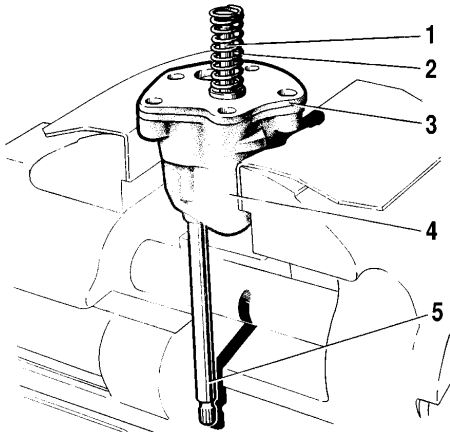

Fig.2-69. Dismantling the oil pump:
- remove cover 3 (Fig.2-69) and withdraw the pump shaft complete with the inner and outer gears from the housing.